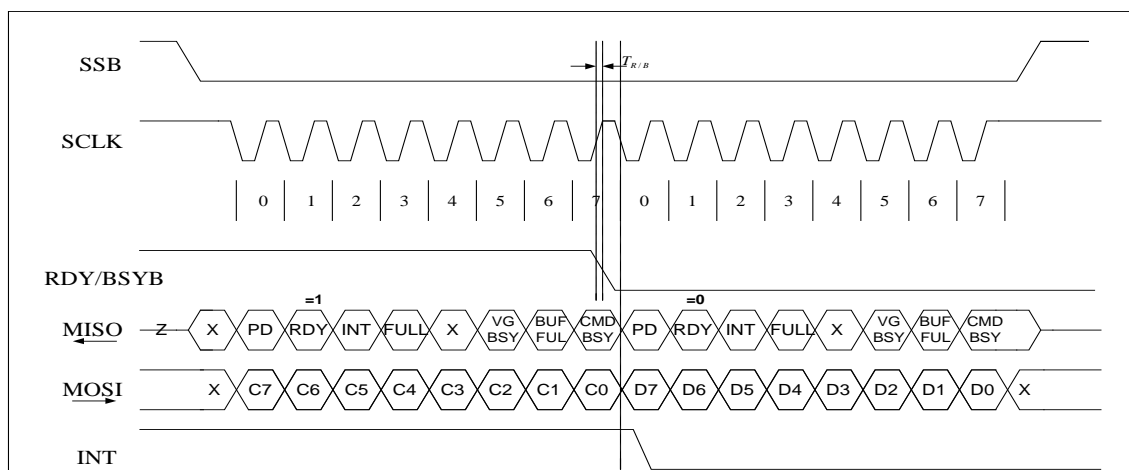

Figure 8-3 RDY/BSYB Ignored for SPI Transactions
For commands that read data from the ISD2361 device, (i.e., DIG\_READ, SPI\_PCM\_READ), MISO is used to read the data. Therefore, the host must monitor the status via the RDY/BSYB pin and take the necessary actions. The INT pin will go low to indicate (1) data overrun/overflow when sending data to the ISD2361; or (2) invalid data from ISD2361. Refer to Figure 8-3 for the timing diagram in which RDY/BSYB is ignored.